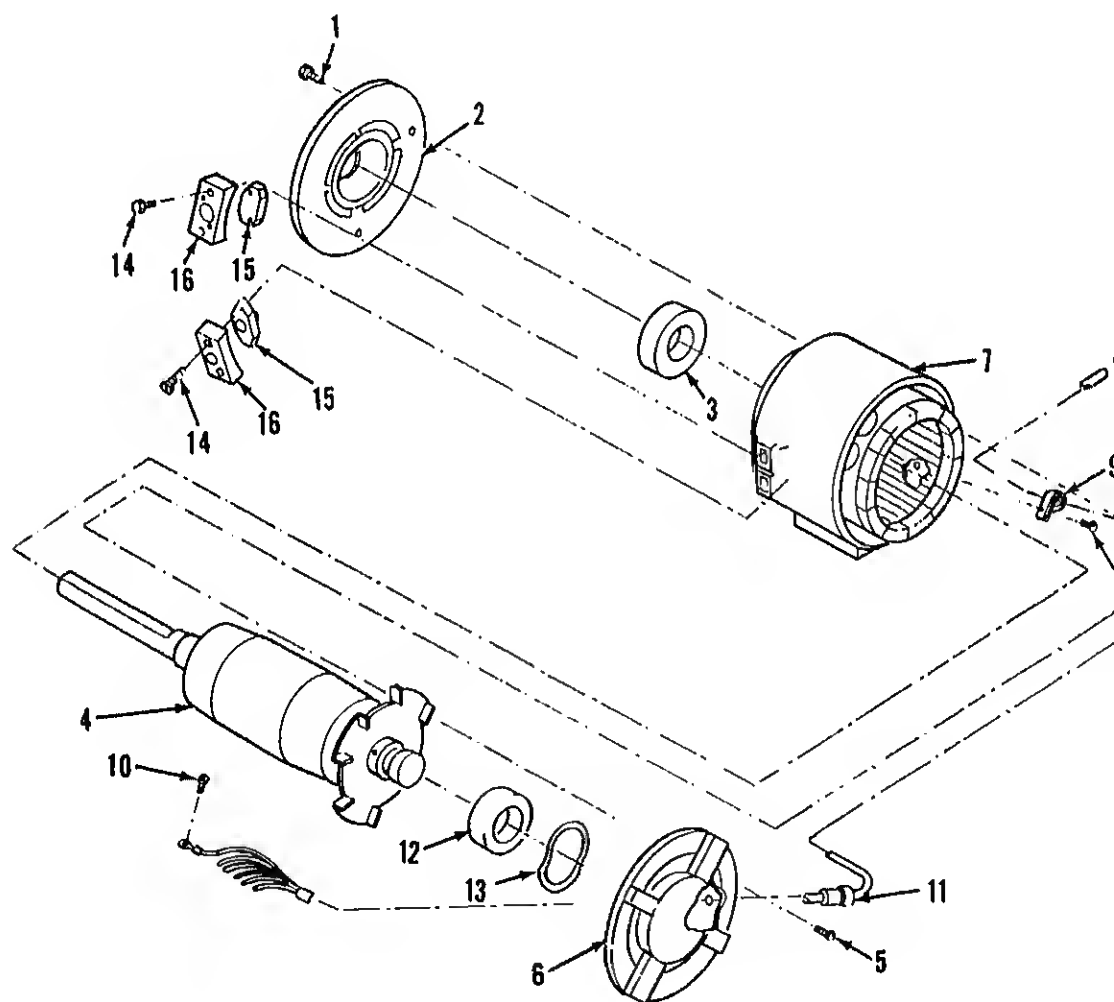

Figure 6-4. Fan motor exploded view
b. Disassembly. Refer to figure 6-4 and disassemble motor as follows: